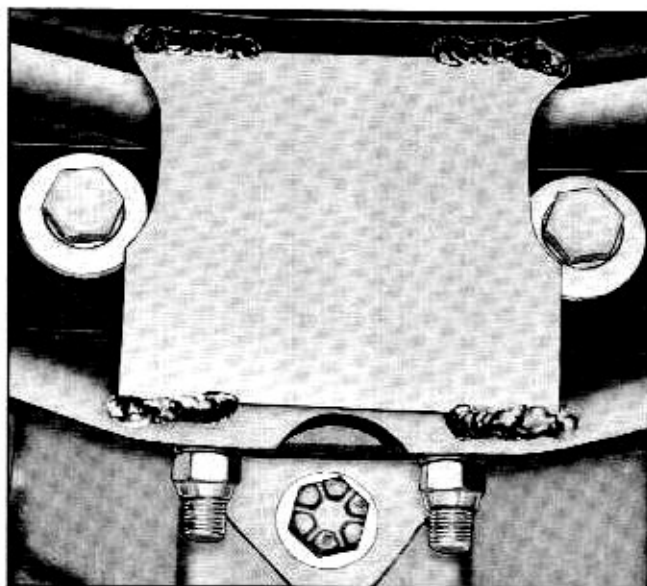

Fig. 4-20 Location of Mounting Bolts
15. Through access holes in trunk floor or from under car, remove two bolts securing transmission and differential carrier to rear crossmember. Remove bolts from bracket (Fig. 4-20).